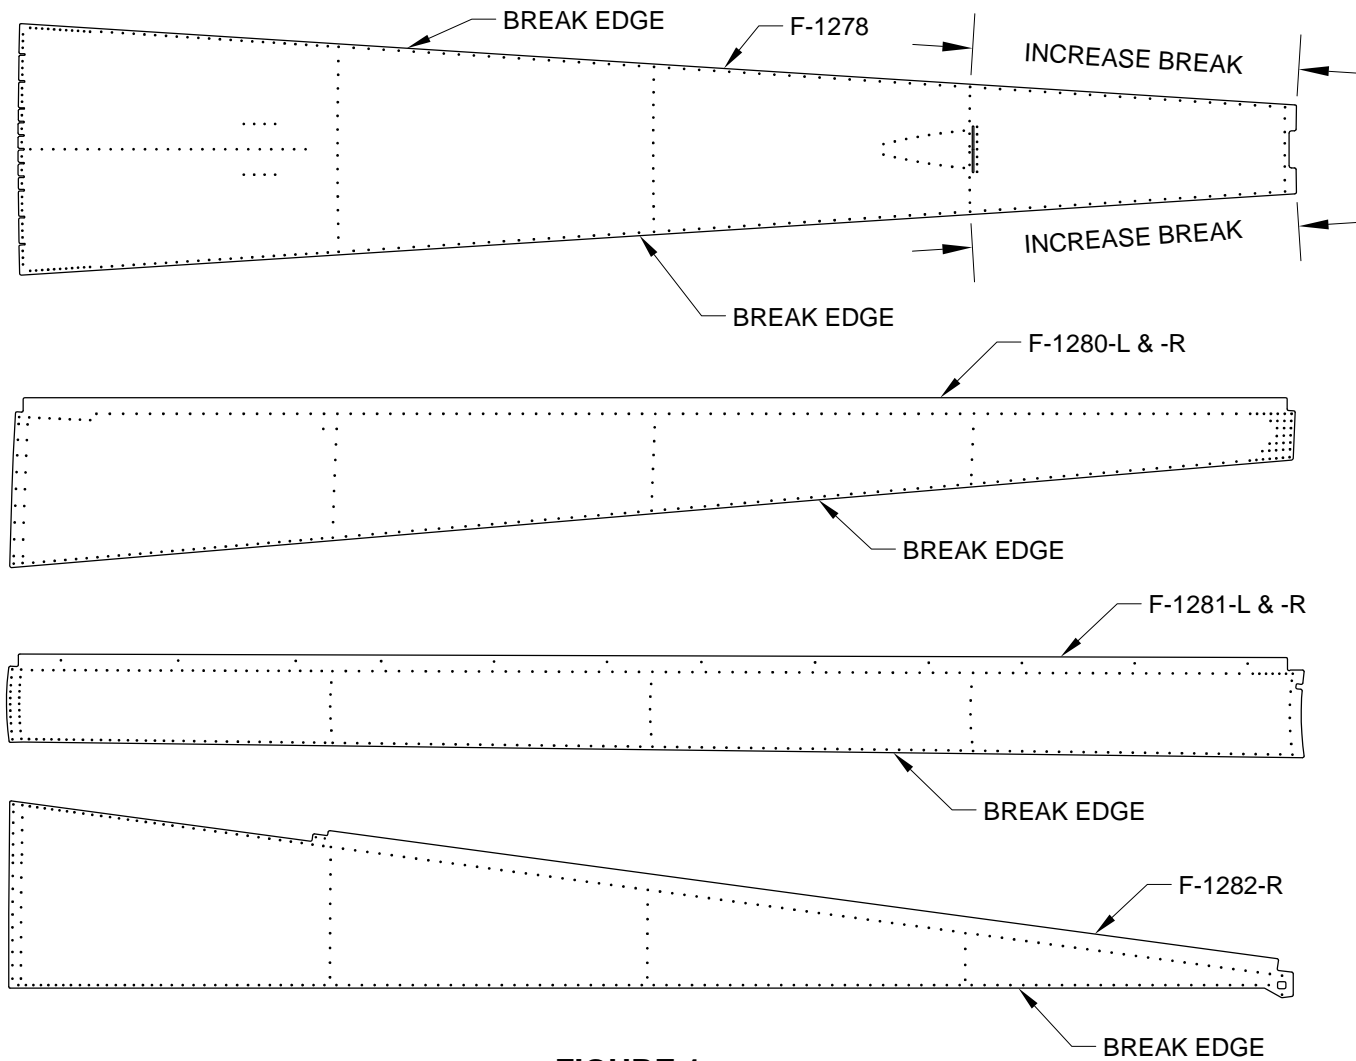

FIGURE 1:
Step 2: Prepare the skins shown in Figure 1 for a lap joint by deburring and breaking (Section 5K) the edges. The edges to be lap joints are called out in Figure 1. Both edges of the F-1278 Top skin must break in the same direction. The remaining skins must break in the same direction as the J-stiffener. Begin with the F-1282-R Bottom Right skin, since it is least likely to be seen. When breaking the edges of the F-1278 Top Skin gradually increase the break angle toward the aft end.